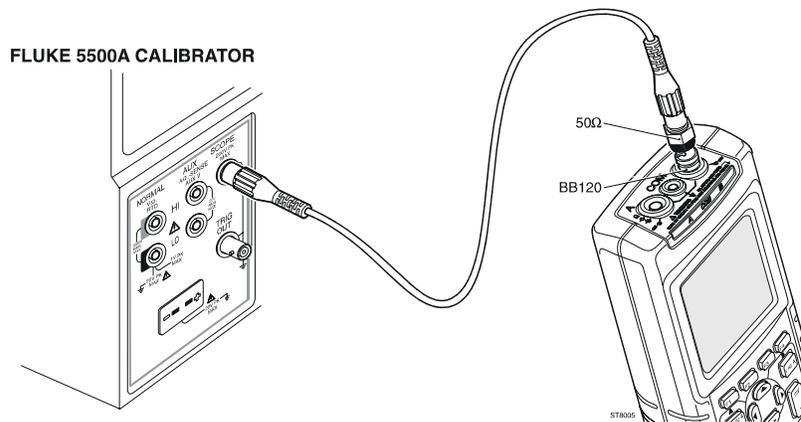

Figure 3-4. Test Tool Input B to 5500A Scope Output 50Ω
1. Connect the test tool to the 5500A as shown in Figure 3-4.
1. Connect the test tool to the 5500A as for the previous test (see Figure 3-4).